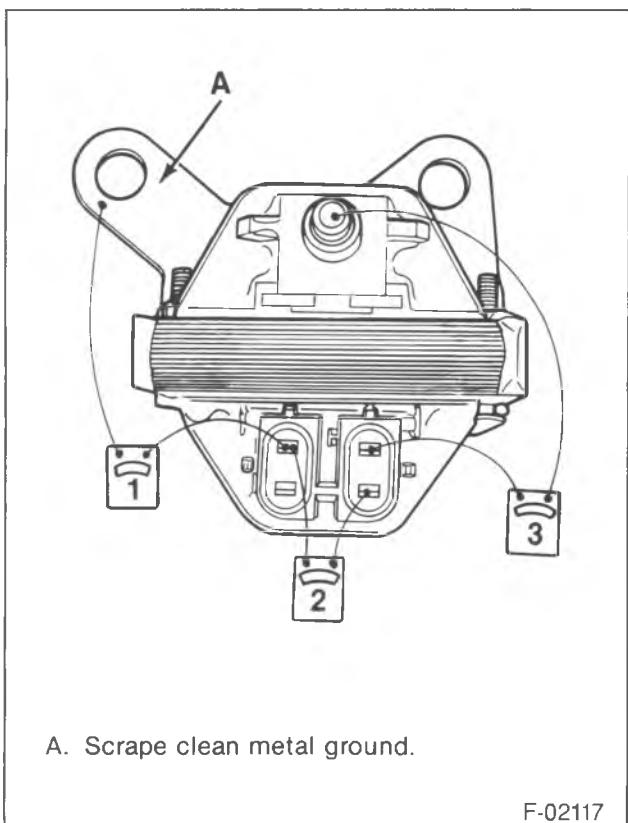

Figure 82—Testing the Ignition Coil
- Connect the ohmmeter as shown in figure 82, step 1. Use the high scale. The reading should be infinite. If not, replace the coil.